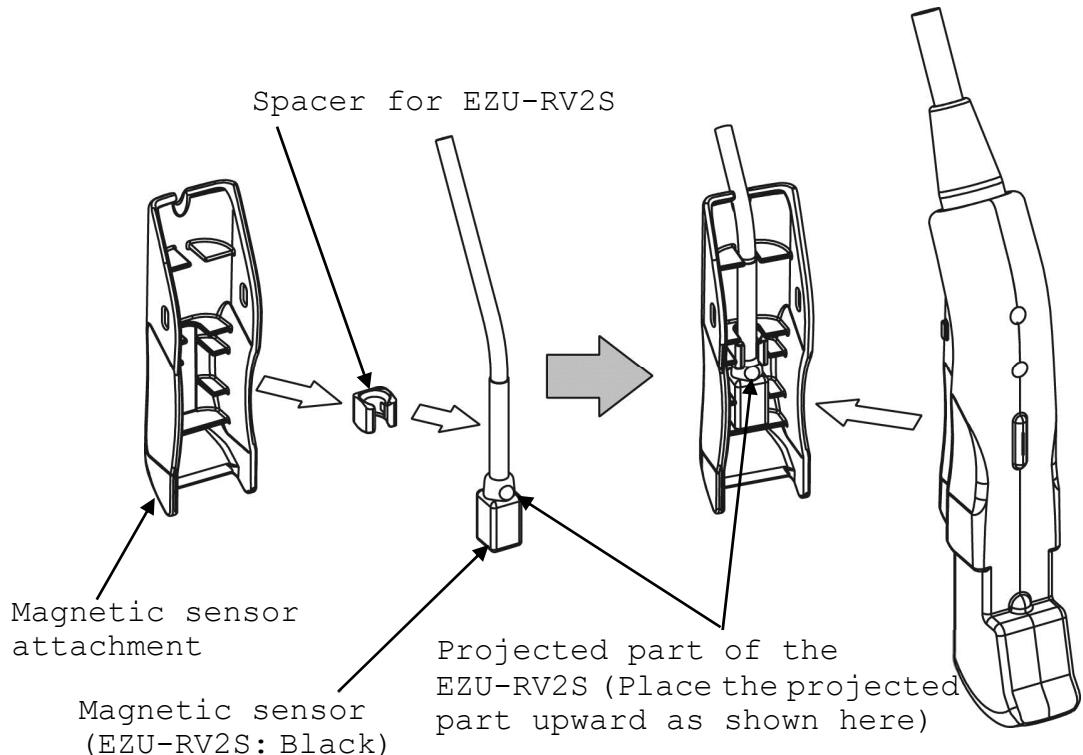

Fig. 15 How to attach the Magnetic Sensor Attachment
- 2) Attach the Magnetic sensor into the attachment with the correct direction as shown in Fig. 15.